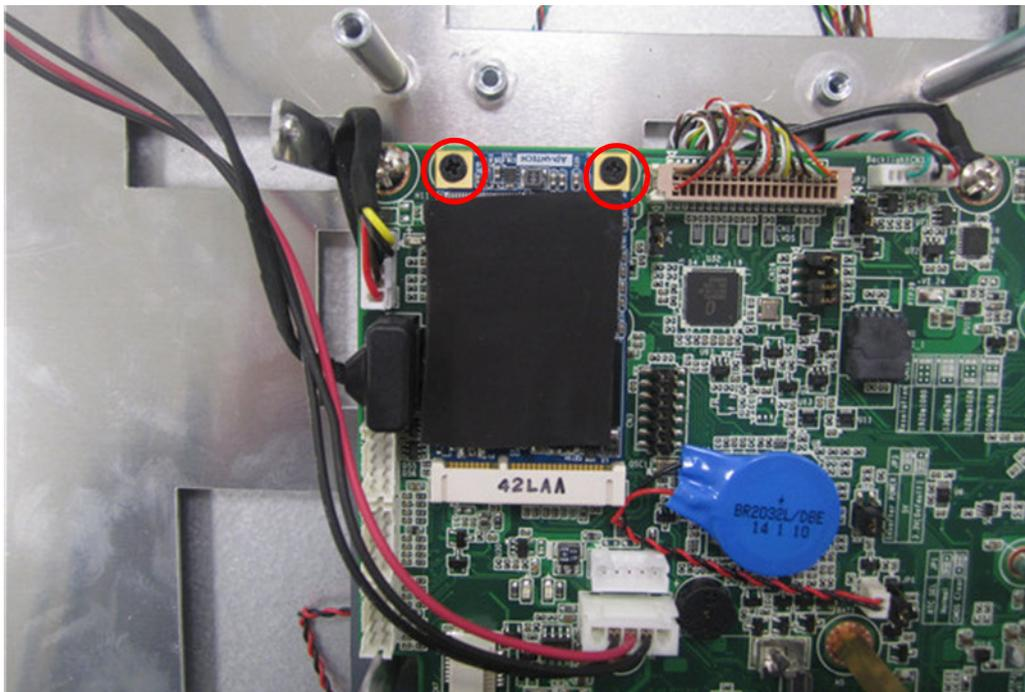

Figure 2.15
- When installing MiniSATA long card, insert Mini SATA card into the correct mainboard slot, and fix it with two M2.5x4 screws in the accessory box. Then take out the thermal pad from the accessory box and attach it onto the MiniSATA card. (See Figure 2.15)